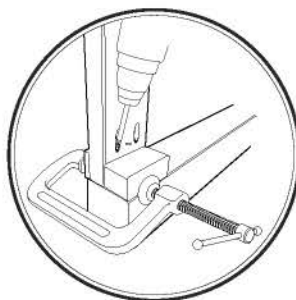

Fig. 2
**T** To start, make a base assembly out of the aprons, legs, and stretchers. Attach one leg on either side of one of the short aprons. Bore two holes for pocket screws into each side of the apron's back, four in total (Fig. 1). Clamp the legs to the apron, but add a 3-mm piece of wood to the front as a spacer (Fig. 2). This will offset the face of the apron from the face of the leg, pushing it back a bit and creating a nice dimensionality. Drive the pocket screws through the apron into the leg. Repeat the same procedure for the second leg-apron assembly.